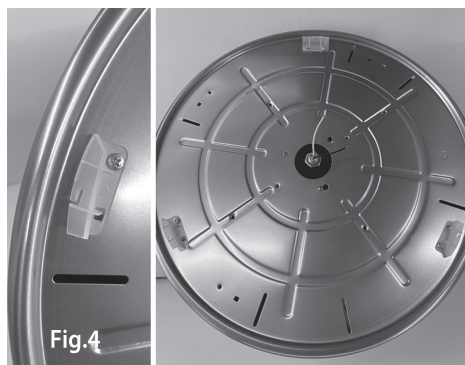

Fig.4
- 4) Secure the entire LED kit to the main body of the fan and attach the tabs that adjust the diffuser (fig. 4).